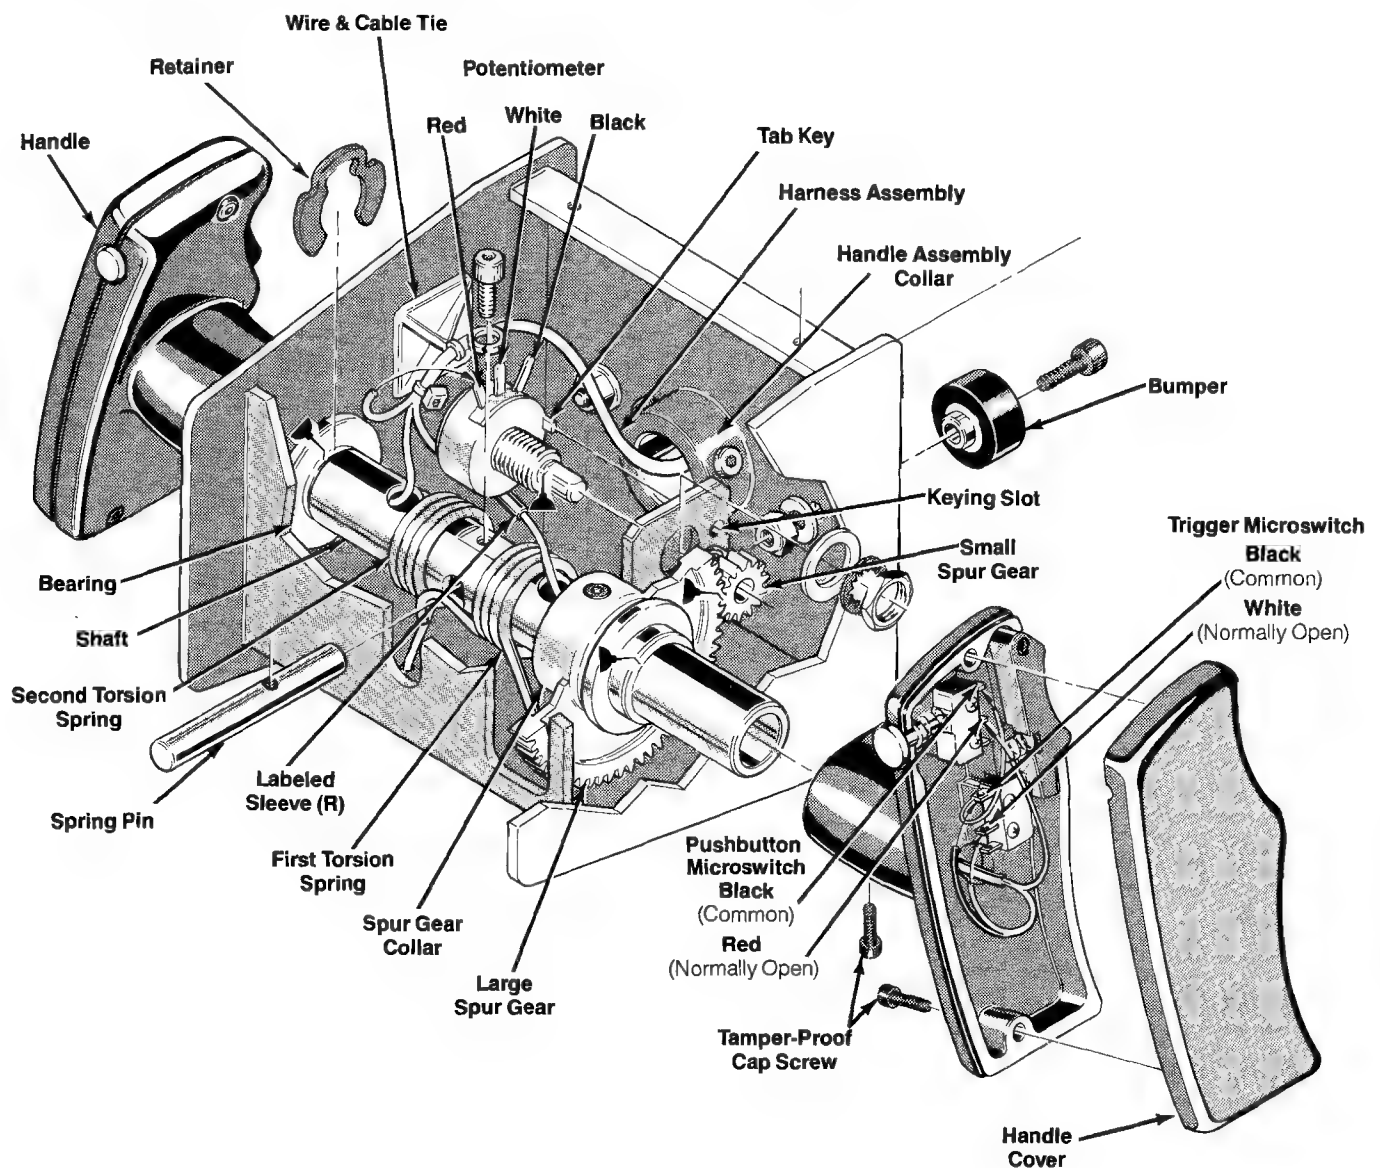

Figure 4-1 Handle Assembly
Routine preventive maintenance on the flight control involves lubricating the moving parts and checking the mounting screws and nuts for proper tightness approximately every four months. The flight control consists of a handle assembly and a steering assembly. The handle assembly controls the vertical motion, and the steering assembly controls the horizontal motion of the display. Routine maintenance can be performed without removing the flight-control assembly from the game. After any corrective maintenance is performed, the flight control should be recalibrated as described in Chapter 1. Refer to Figures 4-1 and 4-2 for the locations of the parts mentioned in the following procedures.
Lubrication. Perform periodic lubrication of the flight control assembly as follows (see Figures 4-1 and 4-2):
3. Lift off the handle assembly cover and lubricate the following parts inside the flight control: (Refer to Figures 4-1 and 4-2 for an illustration of the lubrication points.)
Screw and Nut Tightness. Use the appropriate hex-head and combination wrenches to check the hex-head cap screws and mounting nuts for tightness. Refer to Figures 4-1 and 4-2 for an illustration of the cap screw and mounting nut locations.
Perform the following procedure to remove the handles from the handle assembly (see Figure 4-1):
Perform the following procedure to disassemble the handle assembly (see Figure 4-1):
Follow the steps below to reassemble the handle assembly (see Figure 4-1):
Perform the following steps to install the harness assembly into the flight control (see Figures 4-1 and 4-2):